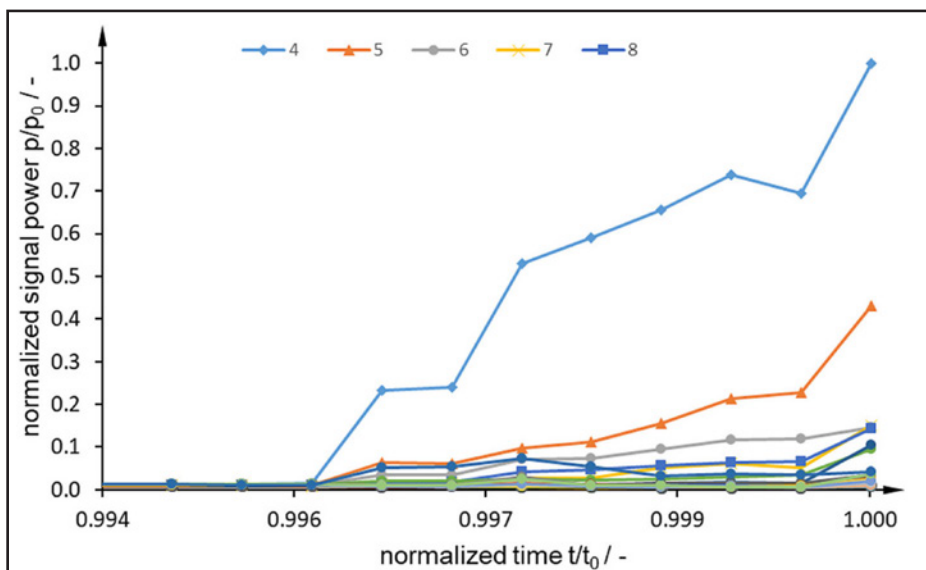

Figure 9 Per-tooth signal power (5 most increasing) of experiment B.
Figure 9 shows another experiment B. For that the higher-end measurement setup was used.
- Signal-to-noise ratio is significantly better when using the higher-end setup (see stable signal power phase at left of Fig. 9)